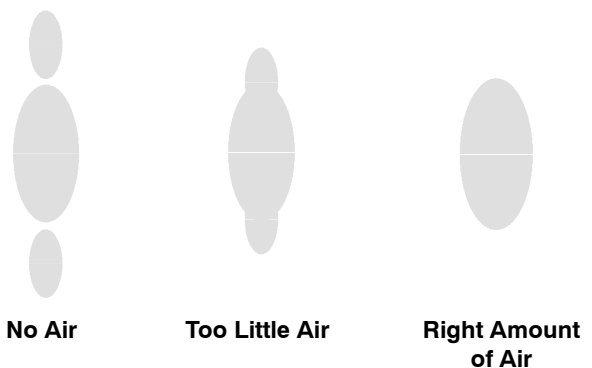

Fig. 6
5. Set the atomizing air pressure at about 5 psi (0.35 bar, 35 kPa) when triggered. Check the spray pattern, then slowly increase the air pressure until the tails are completely atomized and pulled into the spray pattern. See Fig. 6. Do not exceed 100 psi (0.7 MPa, 7 bar) air pressure to the gun.